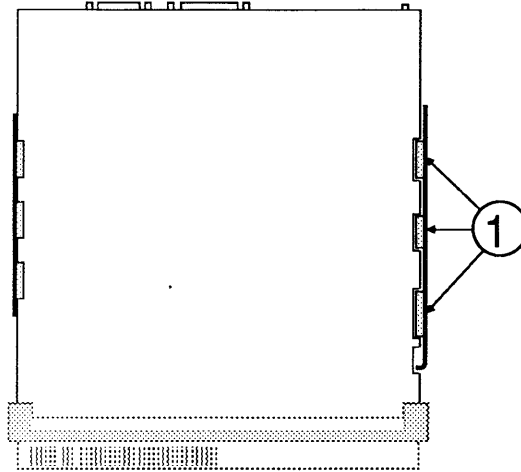

FIGURE 20
- Exactly align the tabs on the right edge of the board with the notches on the right metal bracket (Figure 20, #1), and settle the right edge of the board into the right metal bracket. Slide the board down until you hear it click into place.